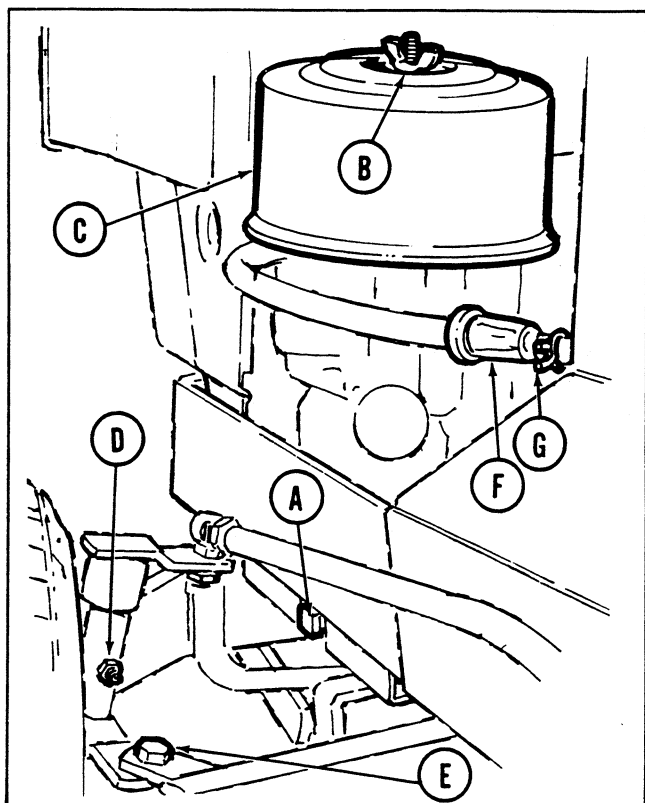

Figure 20. Left front of tractor.
2. See figure 20. Remove the drain plug (A) from the bottom of the engine base and allow the oil to drain.
1. See figure 20. Remove the wing nut (B) and cover (C) from the air cleaner unit.
5. See figure 20. Replace the air cleaner cover (C) and fasten it securely with wing nut. (B).
Left Spindle	Figure 20, Item D
Left Tie Rod End	Figure 20, Item E
1. See figure 20. Remove wing nut (B) and cover (C) from the air cleaner.
7. See figure 20. Replace cover (C) and wing nut (B) and tighten securely.
REPLACE FUEL FILTER: See figure 20. Every 100 hours or more often under dirty field conditions, the fuel filter (F) should be replaced. **CAUTION: DO NOT REMOVE THE FUEL FILTER WHEN THE ENGINE IS HOT, ASSPILLED GASOLINE MAY IGNITE. USE CARE WHEN REMOVING AND INSTALLING CLAMPS (G), NOT TO SPREAD THEM ANY MORE THAN NECESSARY AS THEY MAY TAKE A SET AND NOT HOLD THE HOSE TO THE FILTER PROPERLY.**